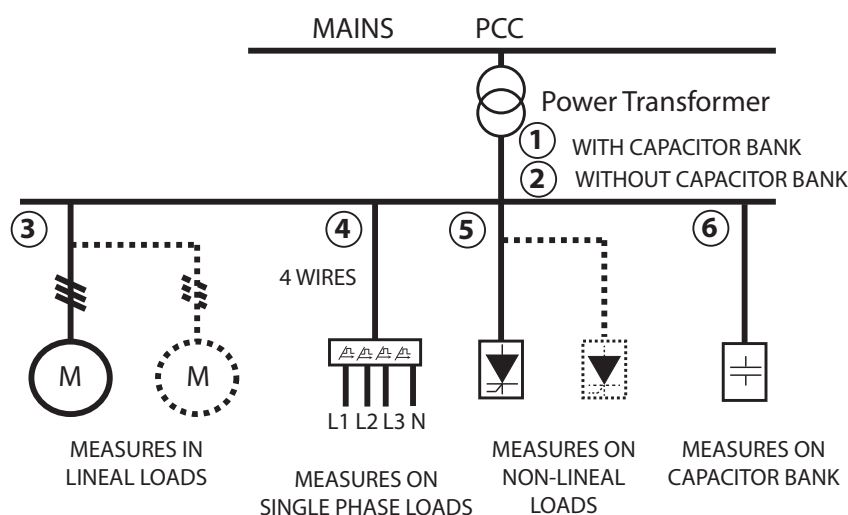

Figure 1: Single-line diagram (SLD) of the installation.
- In mains of the installation (points ① and ② in **Figure 1**)
- Lines with distorting loads (points ④ and ⑤)
For example, full load, **I_A** and 10% load, **I_B**. If **V_{oc}** is the rated voltage at no-load, the **I_{sc}**, can be calculated using the formula shown in **Figure 1**: